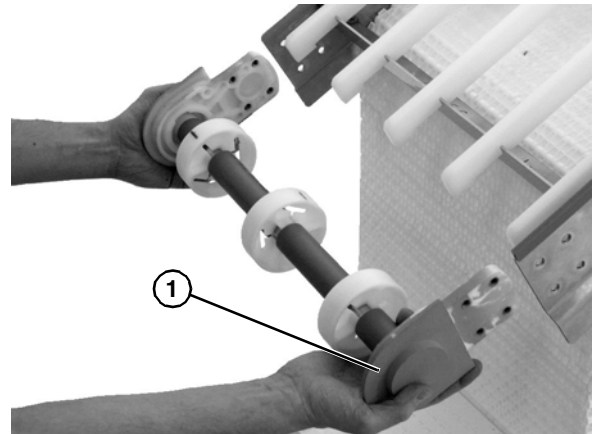

Figure 62
- Remove idler tail assembly (**Figure 62, item 1**).